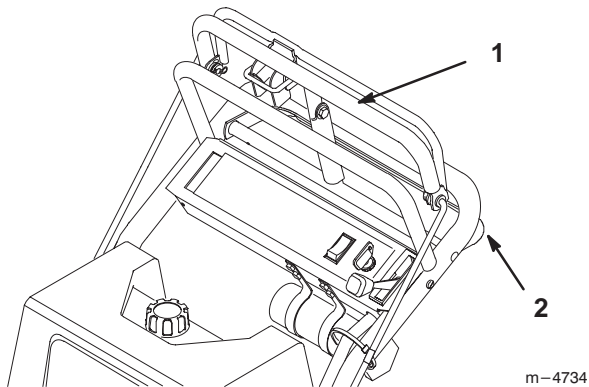

Figure 16
3. Slowly press on the upper control bar to move forward (Fig. 16).
To go straight, apply equal pressure to both ends of the upper control bar (Fig. 16).
To turn, release pressure on the upper control bar side away from the direction you want to turn (Fig. 16).
3. Slowly squeeze on the lower control bar and handle together to move rearward (Fig. 16).